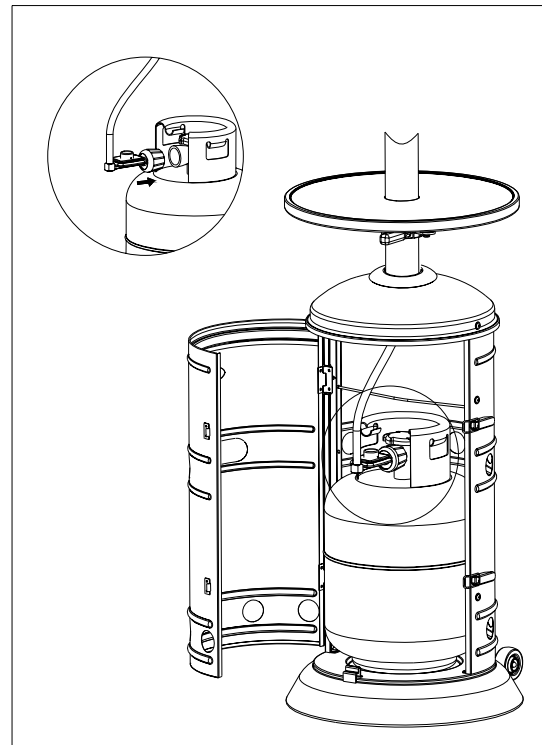

**Fig. 11**
11. Connect Regulator & Hose Assembly (J) to cylinder (not included). (Fig. 11)